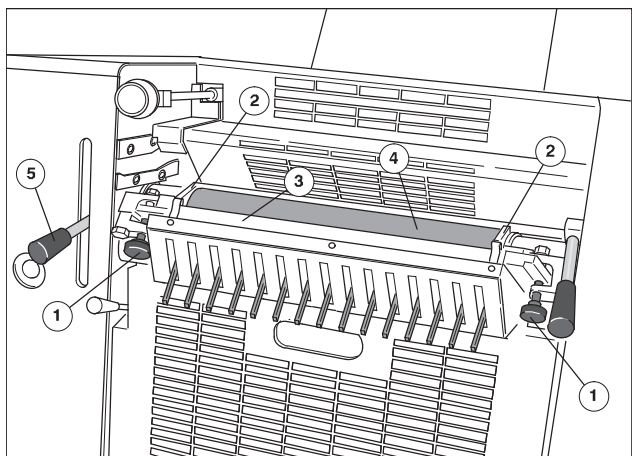

Fig. 10 Changing the ink
2. Loosen the knurled screws (Fig. 10/1) and swivel the locking devices outwards.
4. Take out the ink fountain cheeks (Fig. 10/2) and clean them with roller wash-up solution.
5. Clean the ink fountain blade (Fig. 10/3) and ink fountain roller (Fig. 10/4) with roller wash, rotating the ink fountain roller with the ink fountain roller ratchet (Fig. 10/5).
7. Bring forward the ink fountain locking devices and tighten the knurled screws (Fig. 10/1).